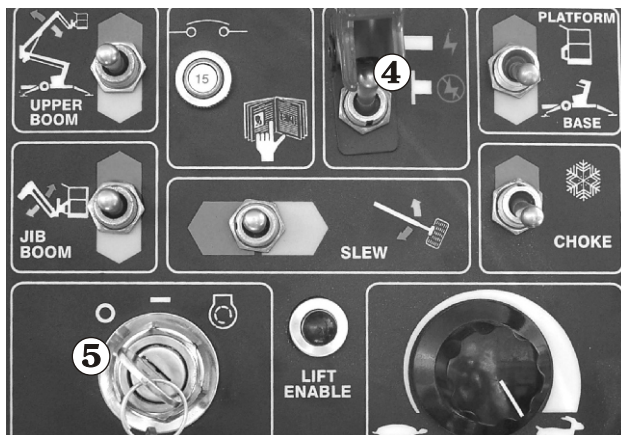

Figure 9.2
4. Set the **Emergency Stop** switch ④ to ON (see Figure 9.2).
5. Set the **Start** switch ⑤ (see Figure 9.2) to ON.